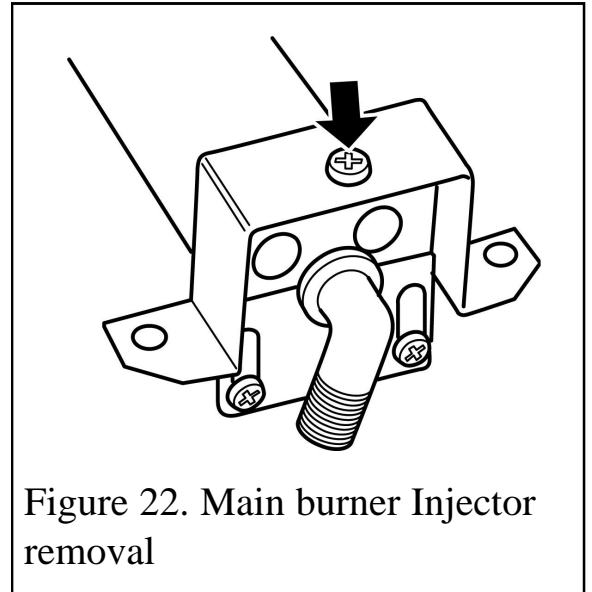

Figure 22. Main burner Injector removal
(See figure 22).
2. Remove the burner clamping screw (See figure 22)